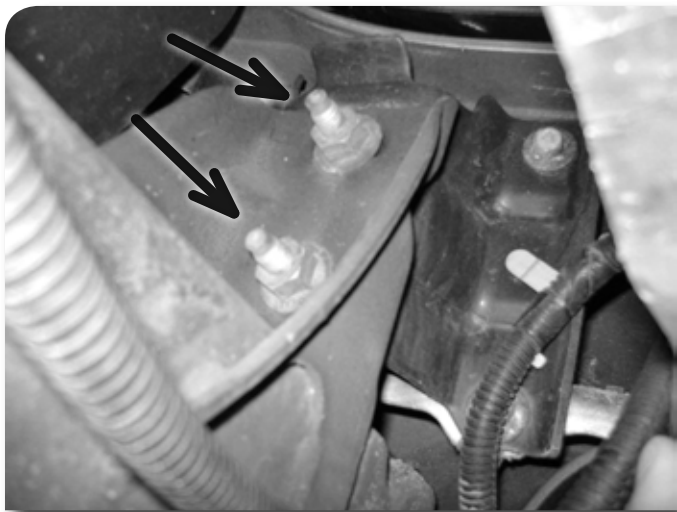

Figure 10
21. Remove the four nuts (two per side) mounting the bumper to the frame and remove the bumper from the vehicle. **Figure 10** Save hardware.